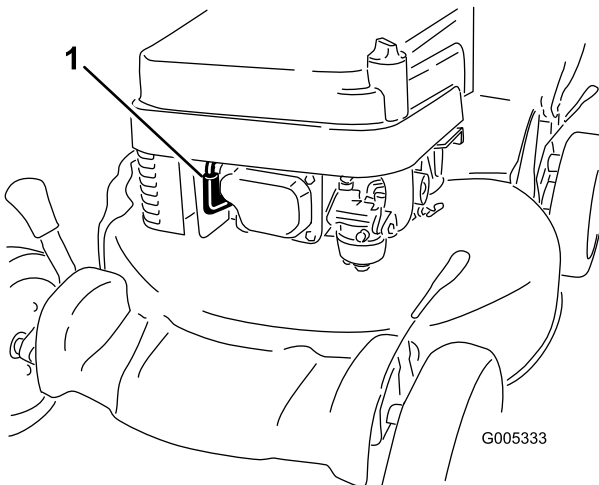

Figure 13
- 1. Connect the wire to the spark plug (Figure 13).